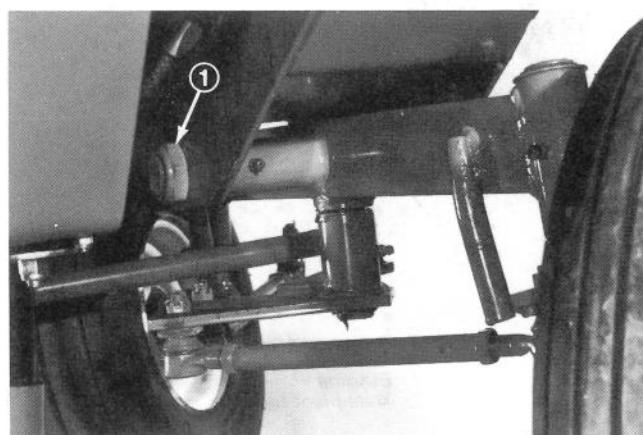

Figure 41
2. Remove large locknut from end of rear axle pin (Fig. 41).
10. Install large locknut on end of axle pin (Fig. 41). Tighten locknut until all forward and backward movement of the axle is eliminated. However, the axle must still pivot freely.
13. Install large locknut on end of axle pin (Fig. 41), tighten locknut until all forward and backward movement of the axle is eliminated. However, the axle must still pivot freely.